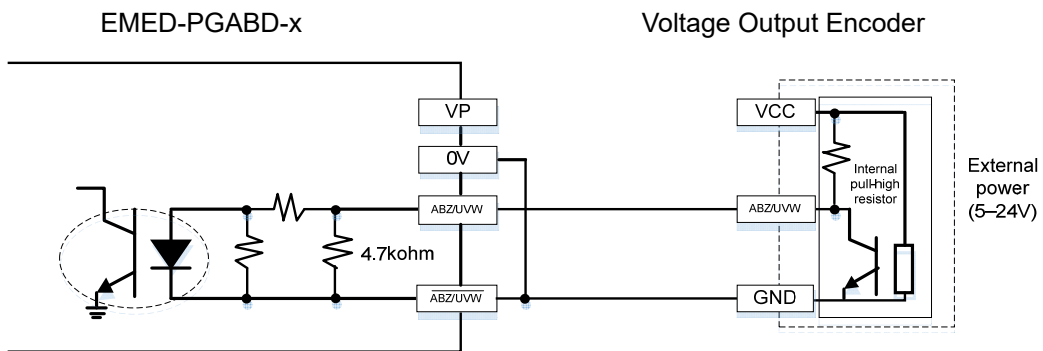

Figure 5
2. Voltage output encoder application: Each set of input current is 5-15 mA. If input voltage uses 24V power, connect the encoder power externally. See the PG wiring Figure 5 below.